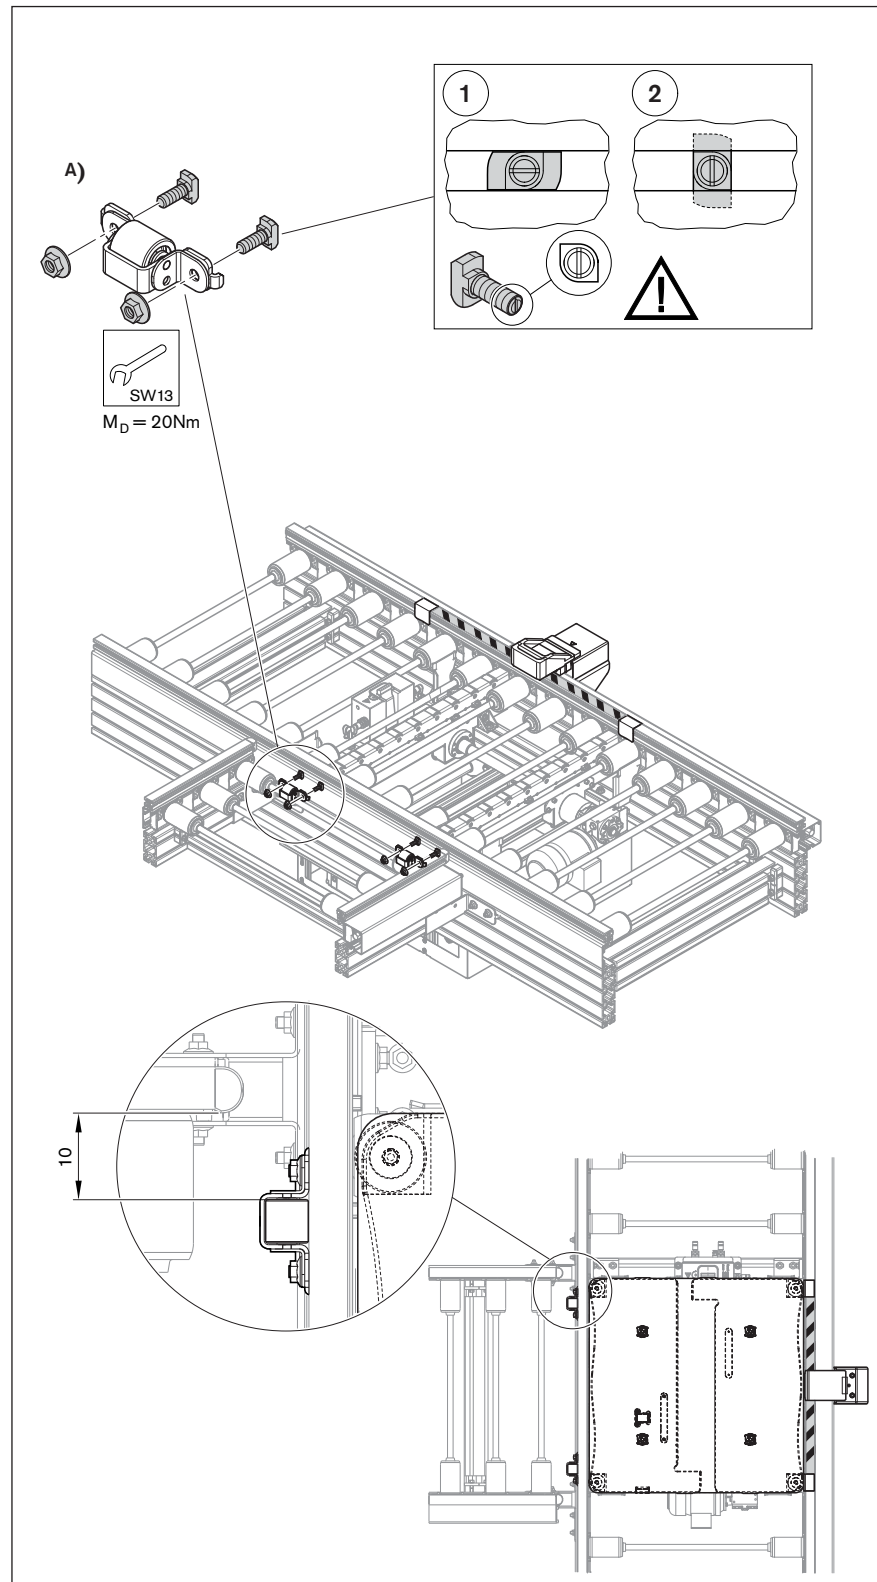

Fig. 68 HQ 5, accessory kit for support rollers
¹⁾ ☞ 82, Fig. 68
1) ☞ 82, Fig. 68